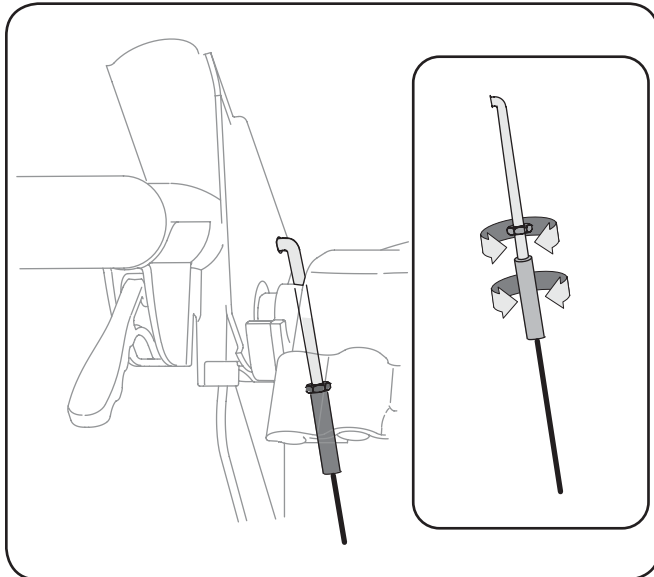

Figure 3-14
8. Thread the ferrule without turning the cable onto the “Z” fitting until there is no slack in the cable. See Fig. 3-14. Do not overtighten the cable. Hold the flats on the ferrule with pliers and tighten the jam nut against the ferrule.